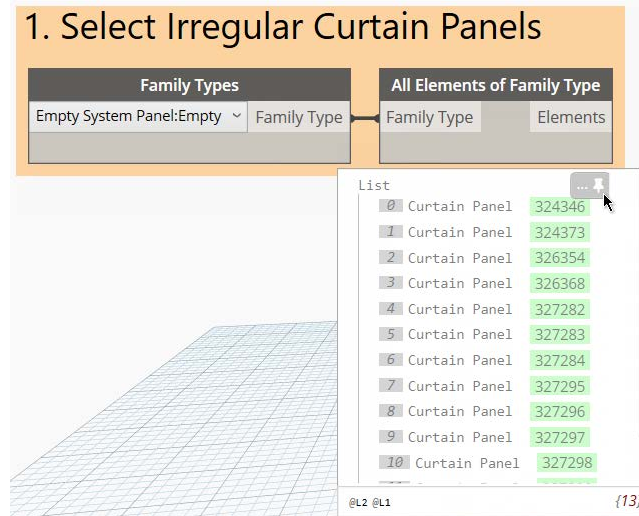

Figure 69
13. Group these two nodes and name the group: **1. Select Irregular Curtain Panels** (see Figure 69).